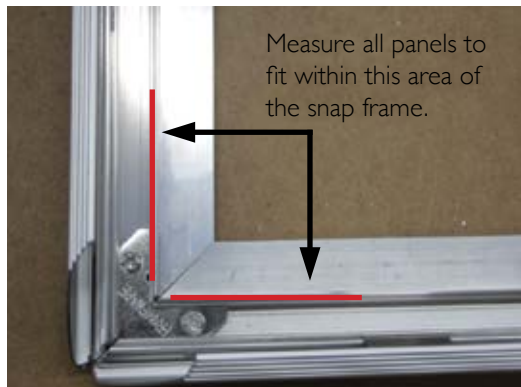

Figure 3
2. **Snap frame and mitered snap frame use.** Make sure you are familiar with mitering techniques for snap frames as they require double mitering. When measuring the height of the panel needed to fit make sure you measure to the right points in the snap frame. **(See figure 3)**